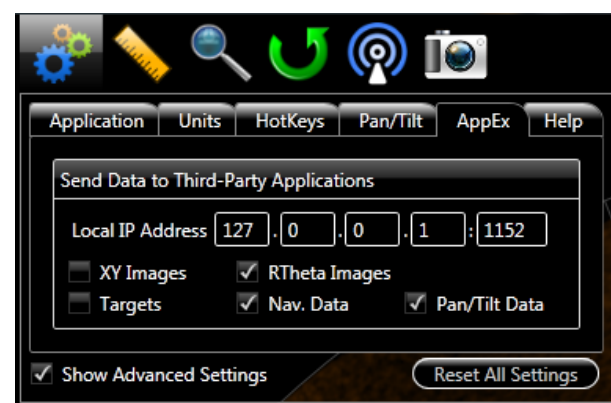

Figure 47. ProViewer Data Streaming Configuration
3. Configure ProViewer for streaming data to SAMM by clicking on the **Application settings** icon, clicking on the AppEx tab, Click the checkbox next to **RTheta Images, Nav. Data and/or Pan/Tilt Data** (match Figure 47). If you are running SAMM on a different computer than ProViewer, enter the IP address in the field. Otherwise, enter the local IP address (192.168.1.3 if using the IP address suggested in the ProViewer manual). Click **Show Advanced Settings** if the IP address is unavailable.